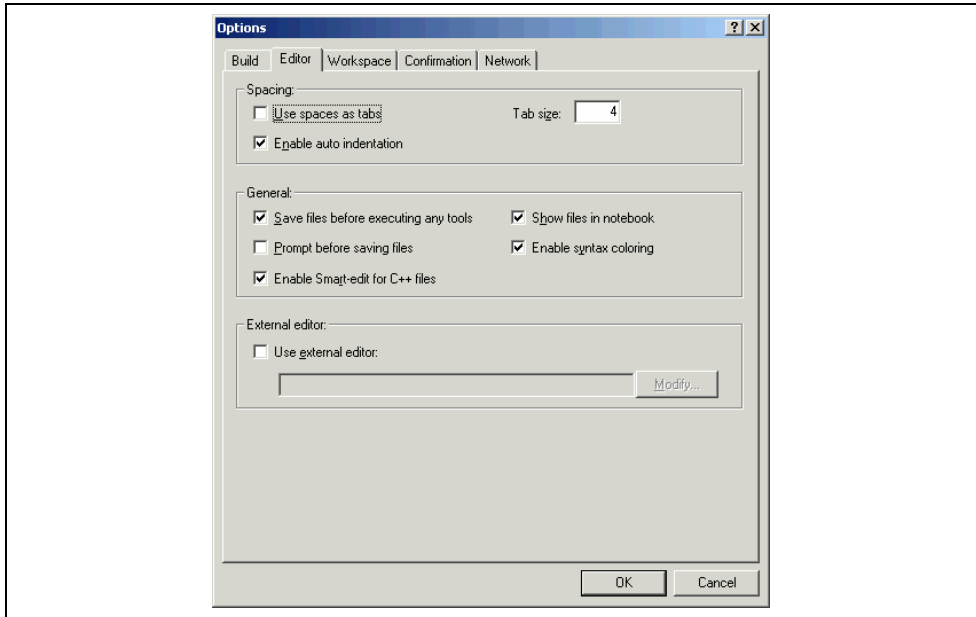

Figure 14.1: Navigation view
3. The dialog in figure 14.1 is displayed. The “Enable Smart-edit for C++ files” should be checked.